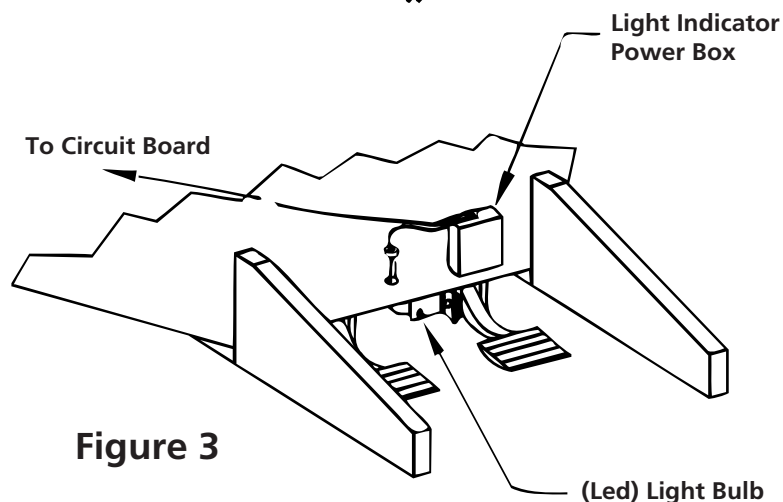

Figure 3
- C. Insert the LED light downward through the hole in the base above the pedals. Slide the light cord through the slot of the light bracket, attaching the LED light to the bracket as shown on **Figure 3**.